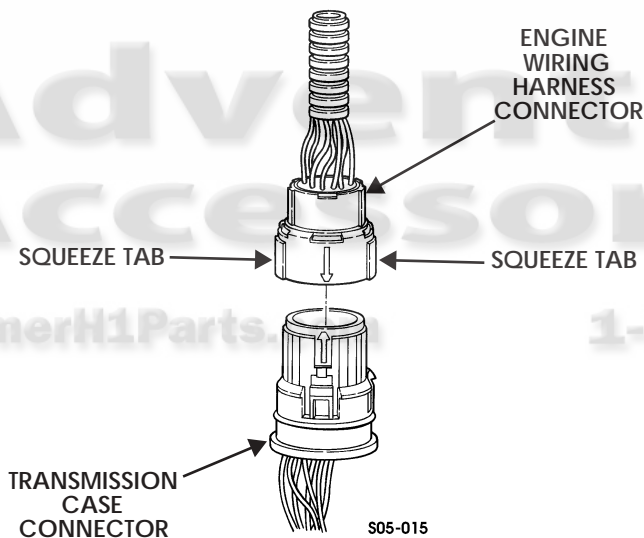

Figure 5-56: Wiring Harness Connector
15. Remove wiring harness connector from transmission case connector. Squeeze two tabs together and pull straight apart (Figure 5-56).